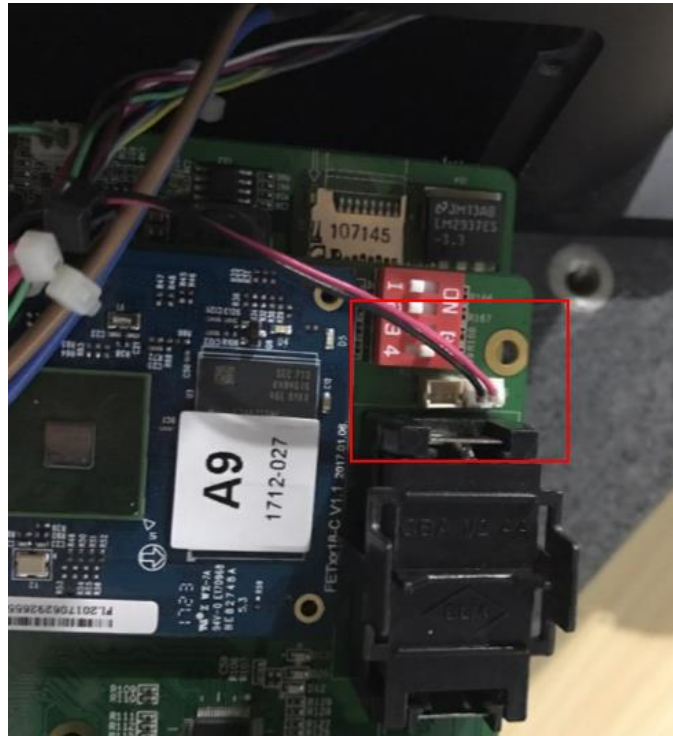

Figure 7.9 Connection between battery and robotic arm
- If a fuse is not installed on the battery, please remove the cover of battery holder to take out the original battery and detach the battery connector of bus cable connecting to the battery holder, as shown in Figure 7.9.